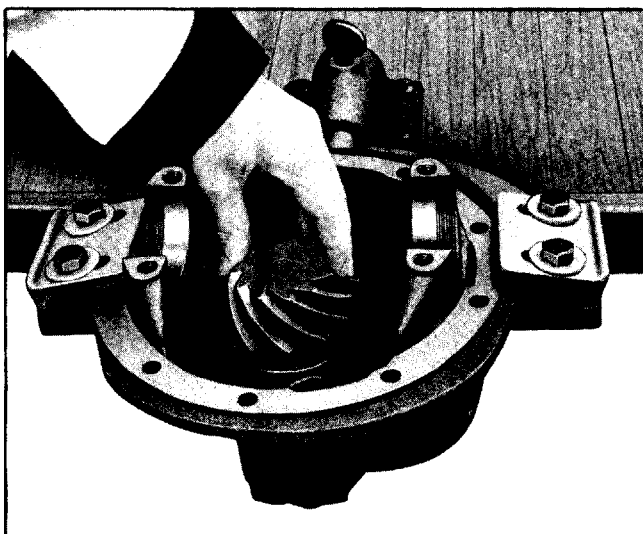

Fig. 4-32 Checking Rear Bearing For Roughness
12. Without removing rear bearing from pinion, wash inner race and roller assembly in cleaning fluid and examine for failure. Clean rear bearing outer race and examine visually for failure. Place drive pinion, with rear bearing inner race and roller assembly installed, in outer bearing race in carrier; rotate pinion while pressing on bearing (Fig. 4-32). If bearing turns smoothly and has no visual defects, do not remove inner race and roller assembly from pinion.